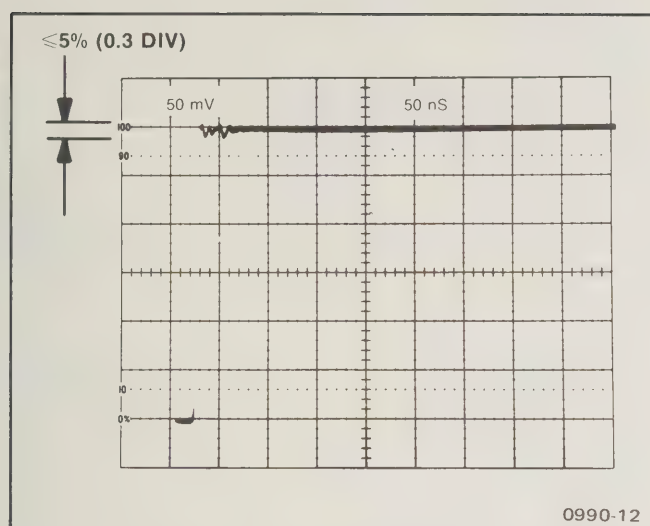

Fig. 5-4. Pulse response with high frequency compensation properly adjusted.
g. CHECK—Front-corner square-wave aberrations of less than 5%, excluding the effects of the test oscilloscope. Fig. 5-4 illustrates typical response when high-frequency compensation is properly adjusted (5% \times 6 Div = .3 Div). Excessive aberrations caused by the generator can be reduced by pulling the Back Termination switch on the pulse generator.
e. Set the pulse generator Pulse Duration control to SQ Wave and the Period control to 1 μ s. Set the Output (Volts) for six divisions of deflection, and set the test oscilloscope triggering controls for a stable display (see Fig. 5-4).